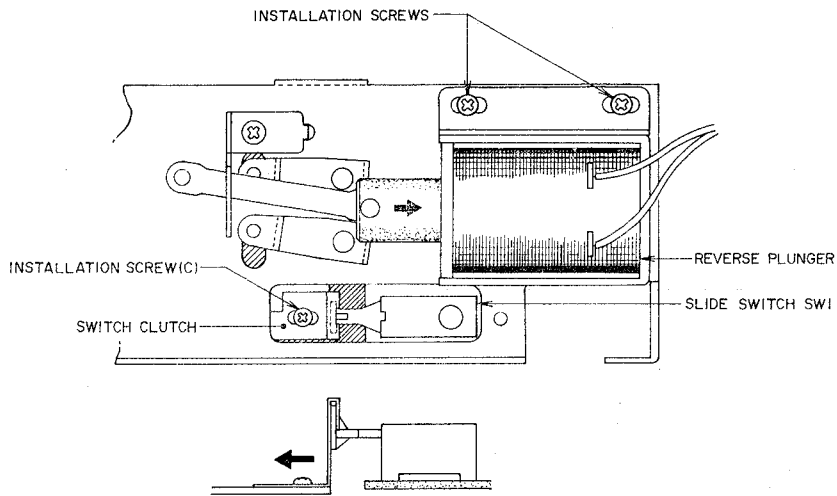

Fig. 8
### Adjustment (Refer to Figs. 8, 9)
### 3. Slide Switch Operating Position Adjustment (Refer to Figs. 8, 10)
- a) Put into reverse mode. Loosen installation screw(c) in Fig. 8 and move the switch clutch in the direction of the arrows and having pulled the slide switch SW1 out to its fullest extent, tighten installation screw(c).